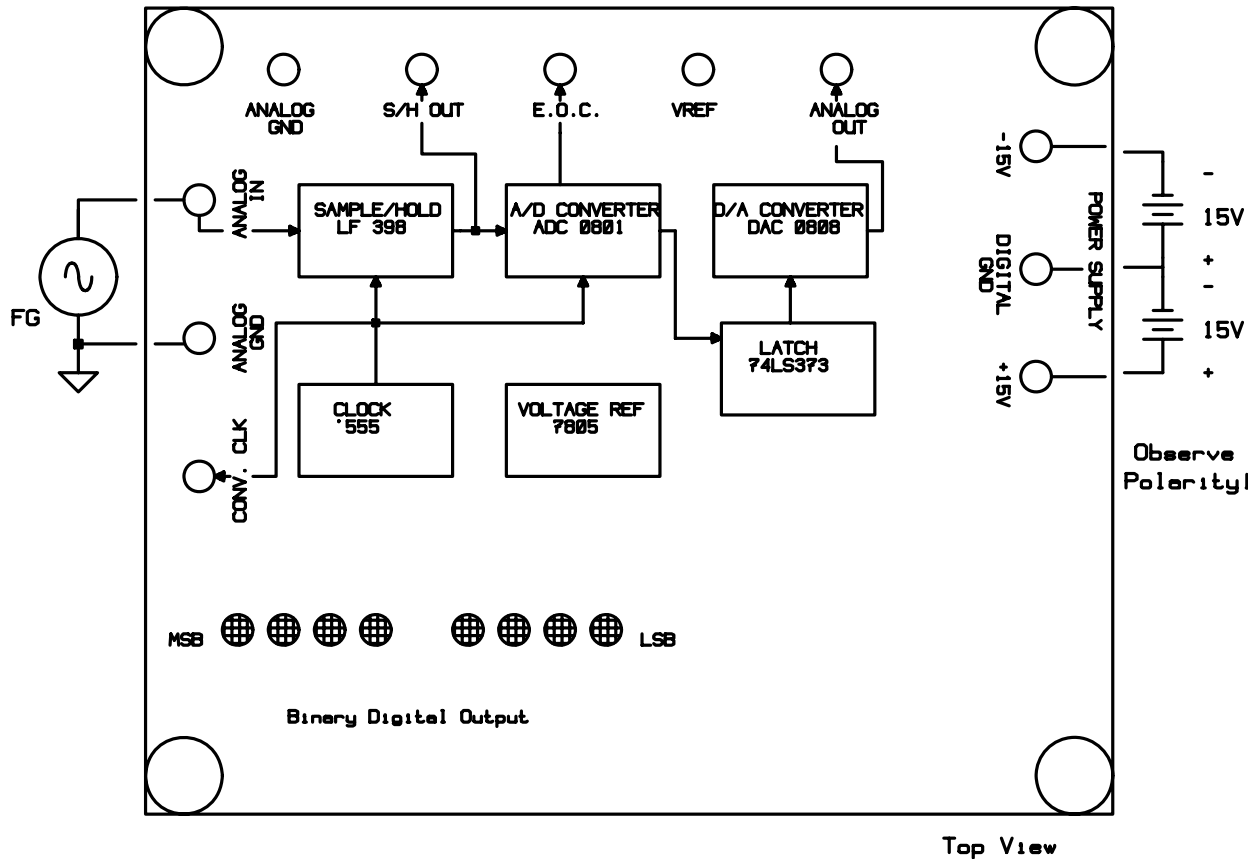

Fig. 1 Top view of analog/digital conversion experiment circuit board. Observe polarity when connecting the +/- 15-V power supplies.
1. Connect the analog/digital conversion circuit board as shown in Fig. 1. Be sure to observe correct polarity in connecting the +/- 15-V power supplies. The function generator and oscilloscope ground leads should be connected to either "analog ground." The power supply common lead is connected to "digital ground." Set the FG for a dc output¹ voltage of 0 V. Connect the scope channel 1 to the analog input (to the S/H), and channel 2 to the analog output (from the D/A converter).